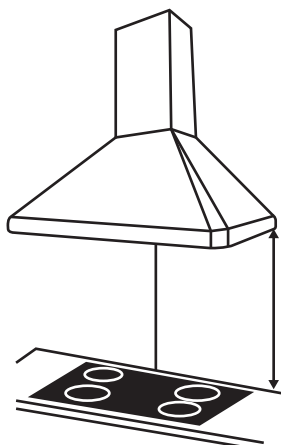

Figure 1
1. Locate the midpoint of the hood at the wall. Draw a vertical centerline from this midpoint to the cooktop (see Figure 1).